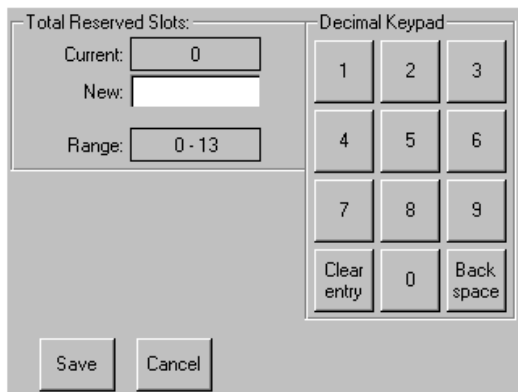

Figure 28: Reserved slots numeric keypad screen
3. Press the associated box next to the **Total Reserved Slots** option. A numeric keypad is displayed (see Figure 28).